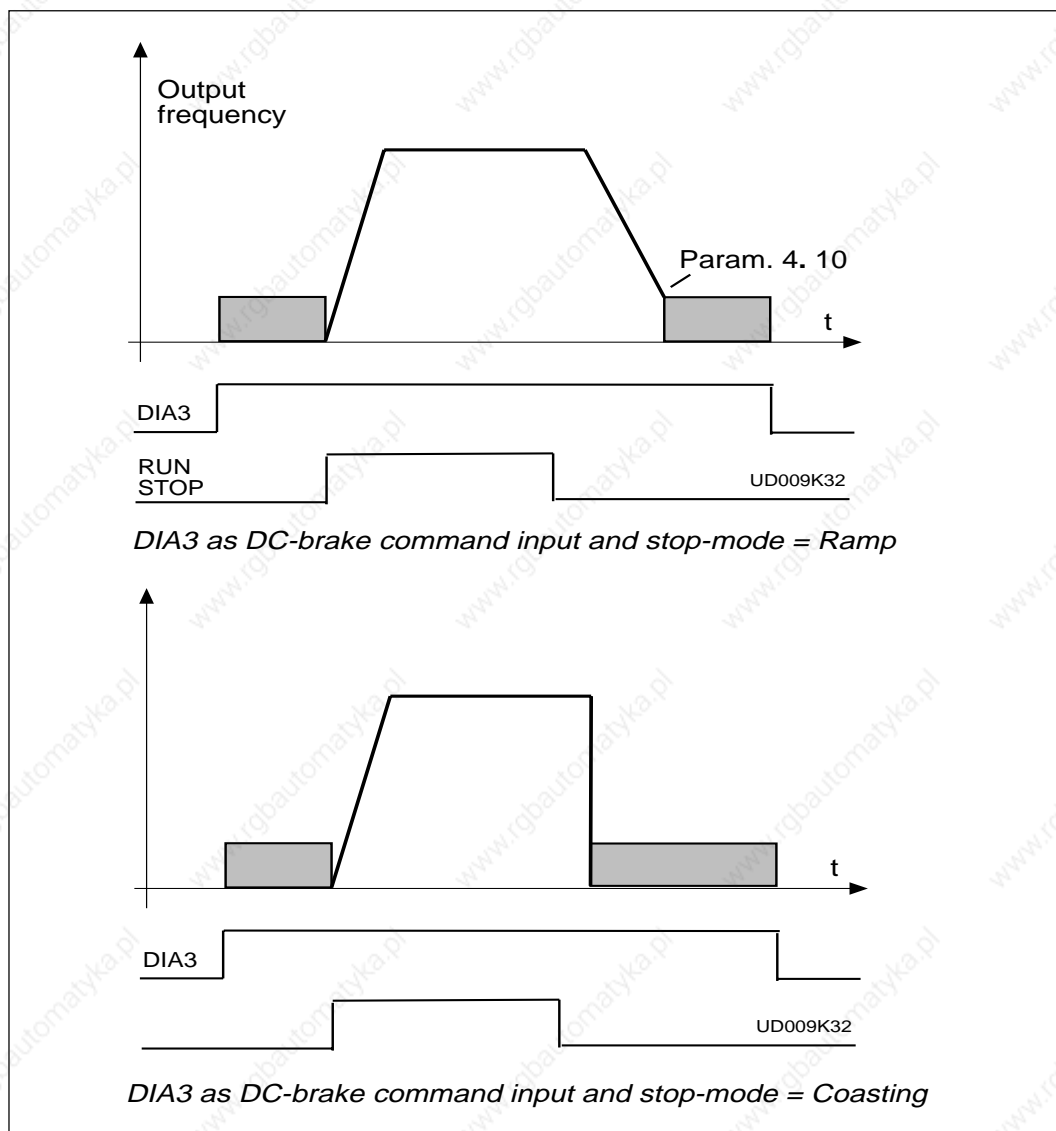

Figure 3.5-4 DIA3 as DC-brake command input: a) Stop mode = Ramp, b) Stop mode = Coasting.
- 9: DC-braking command      contact closed = In Stop mode, the DC-braking operates until the contact is opened, see figure 3.5-4. DC-brake current is set with parameter 4. 8.